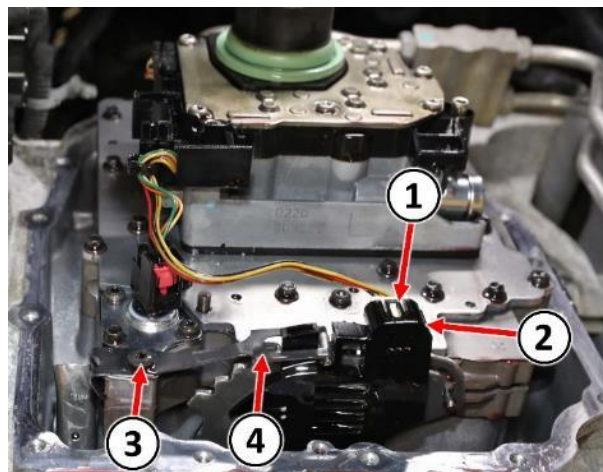

Figure 13 – Range Sensor Connector and Detent Spring
- 21. Disconnect the electrical connector (1) from the range sensor (2) (Figure 13).
- 22. Remove the bolt (3) holding the detent spring (4) (Figure 13).
- 23. Remove the detent spring (4) (Figure 13).